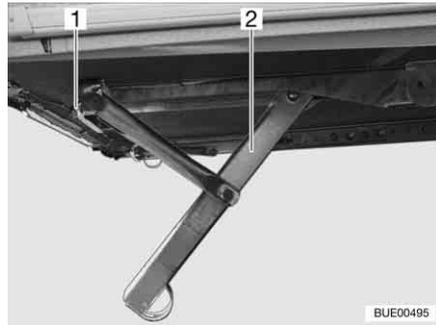
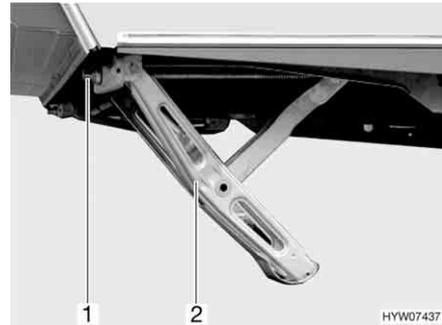

Fig. 19 Corner steady cranked down (variant 1)
Fig. 20 Corner steady cranked down (variant 2)
- Place the hand crank handle provided as standard on the hexagonal nut (Fig. 19,1 or Fig. 20,1) of the corner steady (Fig. 19,2 or Fig. 20,2).